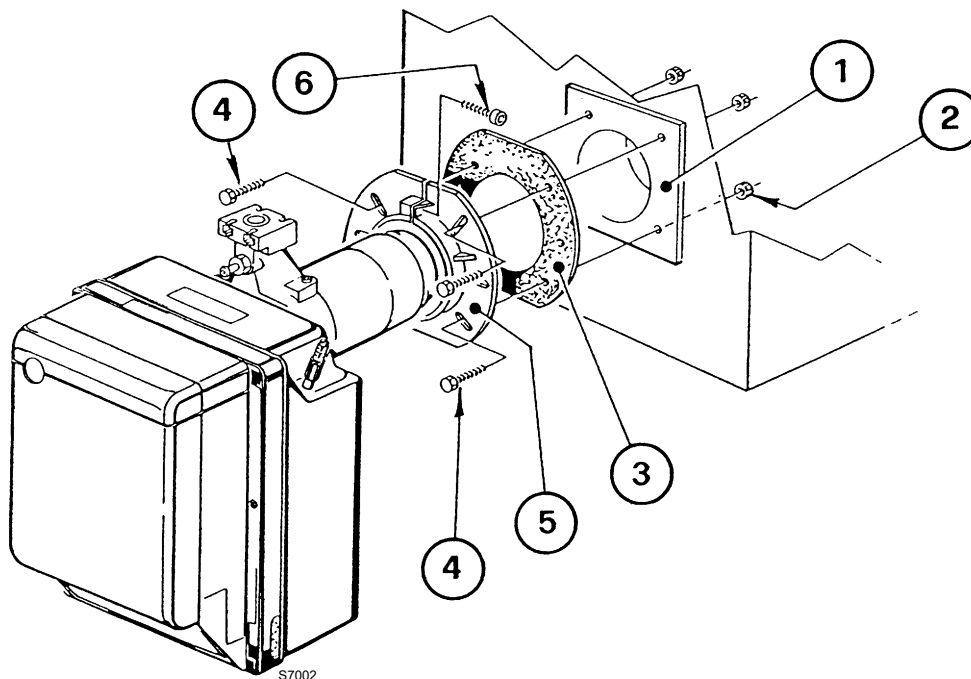

Fig. 11
- Fix the flange 5) to the door of the boiler 1)(Fig. 11) placing the insulating gasket 3) in between using the screws 4) and (if necessary) the nuts 2), but keeping one of the two top screws 4) loose.